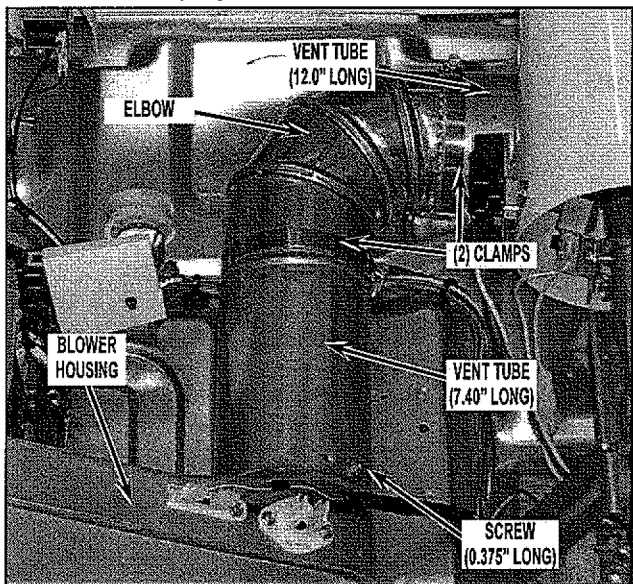
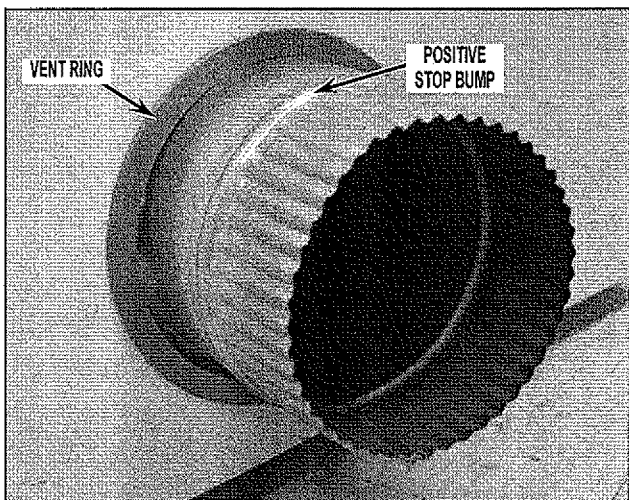

FIGURE 34
FIGURE 35
- Assemble the 305 mm (12.0") long vent tube and elbow from kit together using clamp included in kit. Tighten clamp to hold sub assembly together. See Figure 34.
- Feed this vent tube sub-assembly into the dryer and out the right side panel exhaust hole. Use clamp included with kit, slide it onto the elbow and press the elbow onto the 187 mm (7.40") vent tube. See Figure 34.
- Assure the positioning of the exhaust vent assembly and securely tighten both clamps. See Figure 34.
- From the outside of the dryer, install the vent ring included with kit by sliding over exhaust vent tube and snap into place. See Figure 35.
- Assure the positioning of the exhaust vent assembly, making sure the positive stop bump on the 305 mm (12.0") long vent tube is on the outside of the dryer. See Figure 35. Securely tighten both clamps. See Figure 34.